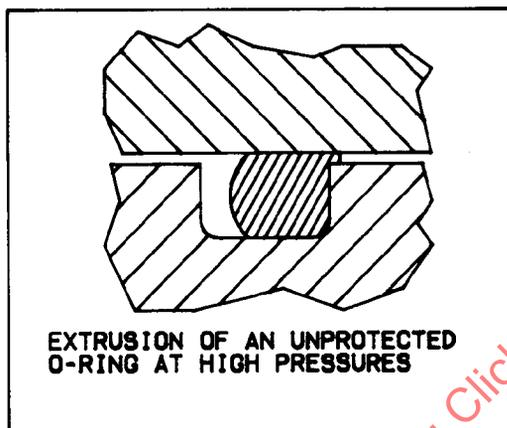

FIGURE 1
- 4.1 O-Rings Extrude: O-rings will extrude under adverse conditions of pressure, temperature; fluid compatibility and diametral extrusion clearance (Figure 1).